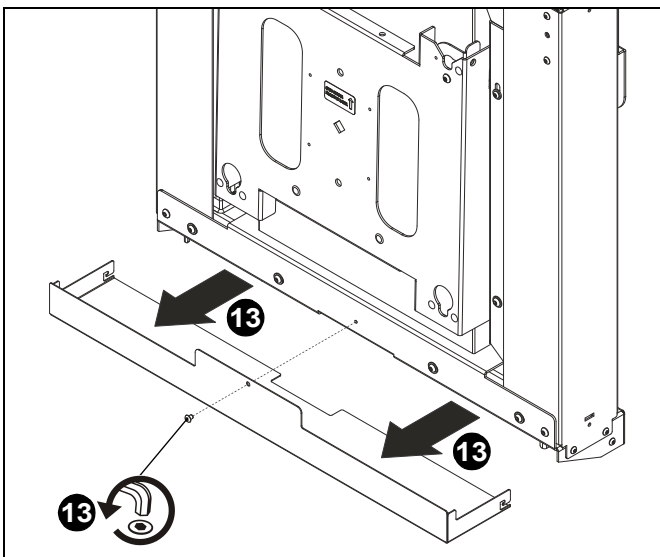

Figure 19
13. Remove screw holding bottom cover to XSD1U assembly (A) and remove bottom cover. (See Figure 19)